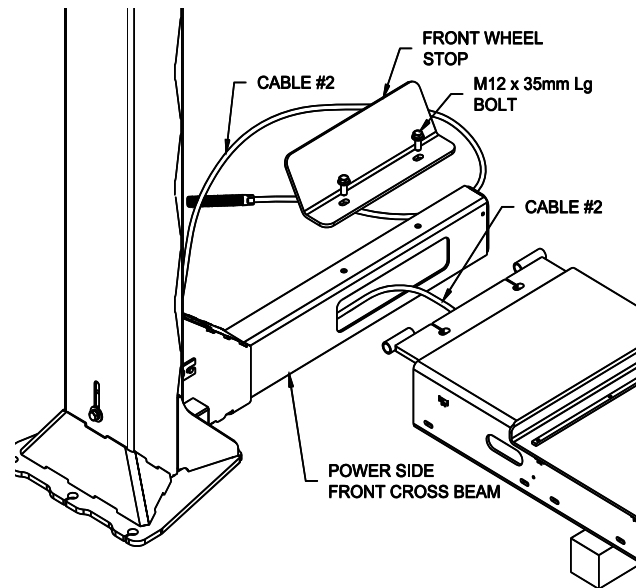

Fig 11 – Front Cross Beam Installation
- 22) Ensure that the power side front cross beam is touching the power column base plate and stand the column up. Move the column into position and remove the cross beam sheave. Reach in through the access hole in the cross beam tube and pull out the 6 ft. roll of 1/8" dia. plastic air line connected to the air cylinder at the end of the cross beam. Feed cable #2 into the cross beam access hole and back out the top, Fig 11.